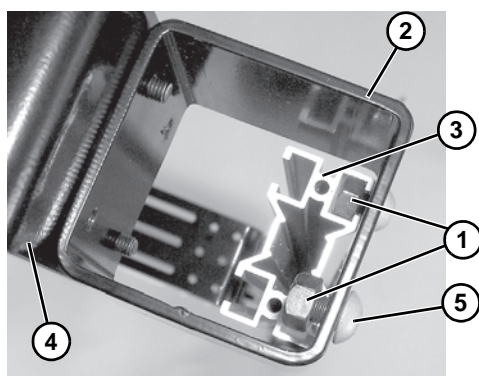

Figure 9
13. Align two hex nuts (**Figure 9, item 1**) on each leg support bracket (**Figure 9, item 2**) to t-slots at top, outside of stand legs (**Figure 9, item 3**). Slide leg support brackets down stand legs until top of stand/conveyor mounting bracket (**Figure 9, item 4**) is approximately the same height as the bottom of conveyor. Tighten four button head screws (**Figure 9, item 5**) just enough to keep leg support brackets in position.